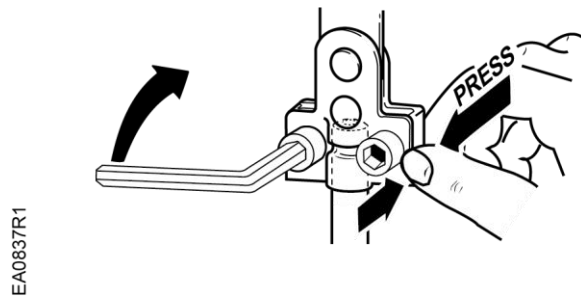

Figure 5. Connecting the Linkage Stem Coupling on the Valve Stem.
6. Use the 5 mm hex wrench to tighten the stem coupling screws and to secure the connection to the valve stem. See Figure 5.